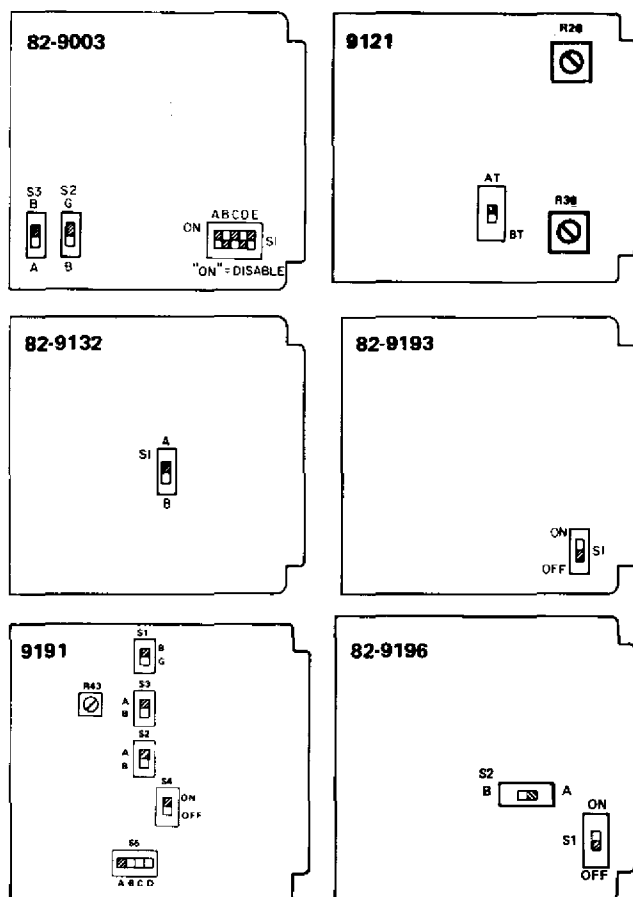

figure 5. Option switch locations
4.10 Nearly all optioning of the modules in the 291R System is done via switches on the printed circuit board of each module. Once optioned and installed, no alignment or adjustment of the modules is necessary, with the possible exception of a level adjustment on the 9194 2Wire Conference Amplifier module. Locations of these switches on the modules' printed circuit boards are shown in figure 5. Once optioned, insert each module into its appropriate position in the 80-5033 Common Equipment Shelf or 80-5034 Line Equipment Shelves as shown in figure 6. The 80-5034 Shelves are equipped with cut-through connectors for each conference station to maintain regular PBX service whenever the associated 9191 module is removed from its shelf position. Option the modules in accordance with the following checklist.